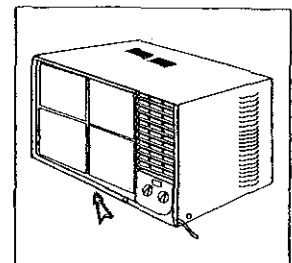

Fig 4
- E Grasp the lower front corner of the front panel, pulling (gently) outward and upward Repeat this step on the 3 remaining corners (Fig 4)
- F Grasp the pull handle at the front of the slide-out chassis and carefully slide the air conditioner out of the cabinet (Fig 4)